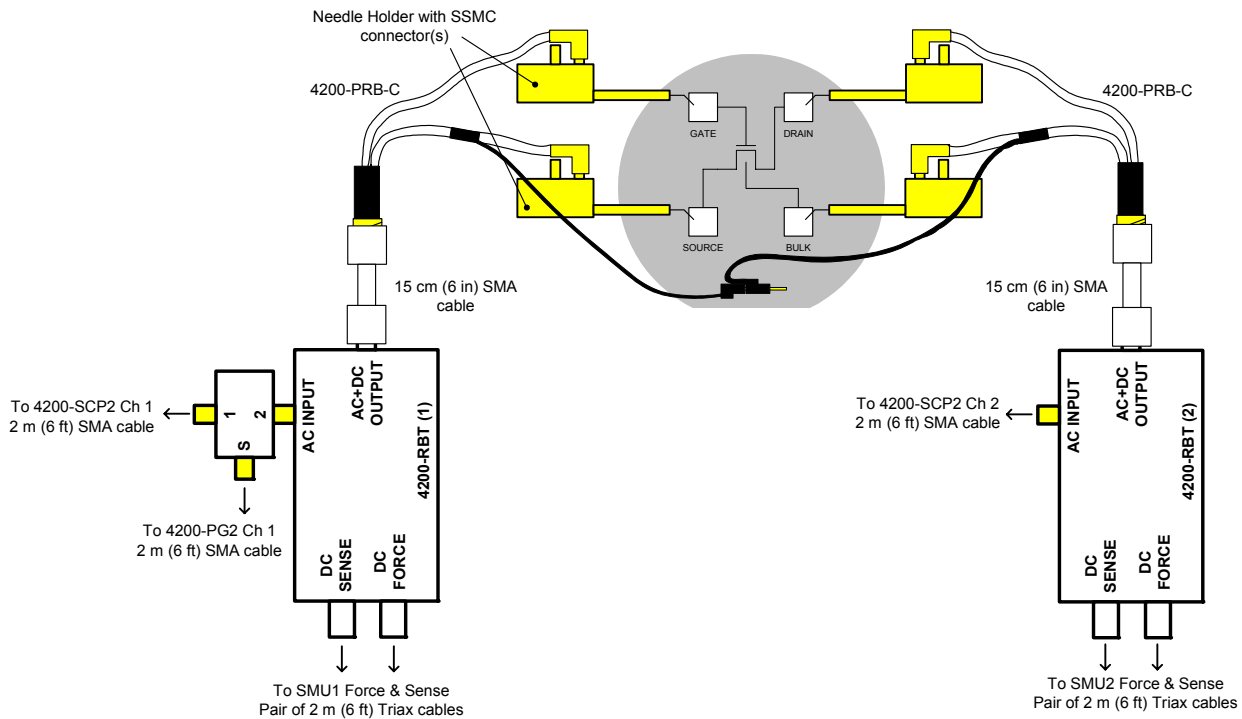

Figure 15: Pulse IV connections from Remote Bias Tees to DC probes for a DC layout DUT structure, using the 4200-PRB-C Y adapter cable.
These SMA to SSMC Y adapter cables are appropriate for on-wafer pulse IV testing of nominally DC structures (Figure 15). These “Y” cables are not appropriate for higher frequency devices. The upper frequency limit is not specified, because the effect of actual device layout and probe configuration can have a significant impact. In general, any device that has an  $F_T$  much above 1 GHz might oscillate when using a DC probe connection scheme and the 4200-PRB-C cables.
4. For DC structures, prepare the probe connection by disconnecting all DC cables from the SSMC connectors on the needle holders. Continue setup of PIV by connecting a 4200-PRB-C cable to the 15 cm (6 inch) SMA cable attached to each 4200-RBT. Refer to Figure 15. Don't forget to connect the black shield jumpers to each other as shown in the middle of Figure 15. Connecting shields together is necessary and very important, as it greatly reduces the inductance that is caused by the loop area of the interconnect.